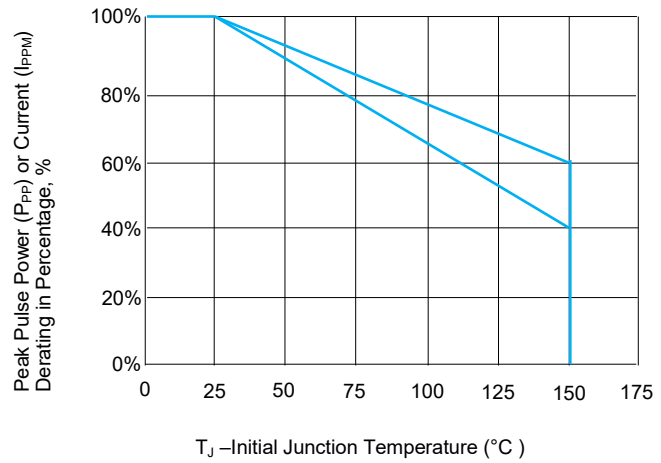

FIGURE 2 Peak Pulse Power Derating Curve
1. Non-repetitive current pulse, per Fig. 3 and derated above T_J (initial)=25 °C per Fig. 2.